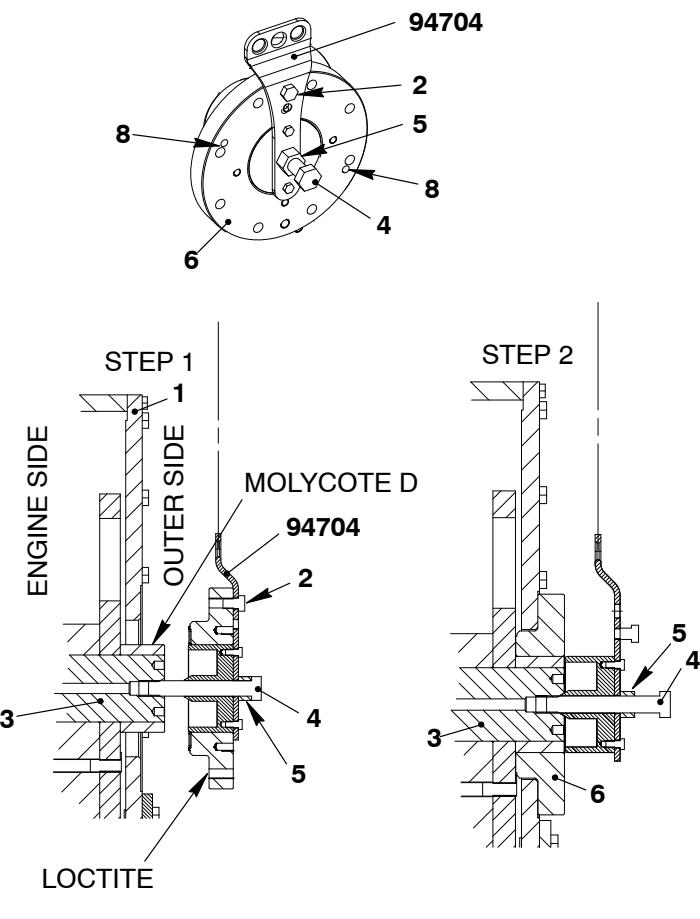

Fig. 8
- 1) Make sure that the new bearing (6, Fig. 8) is clean, dry and in good condition. Apply Molycote D to the bearing surface.